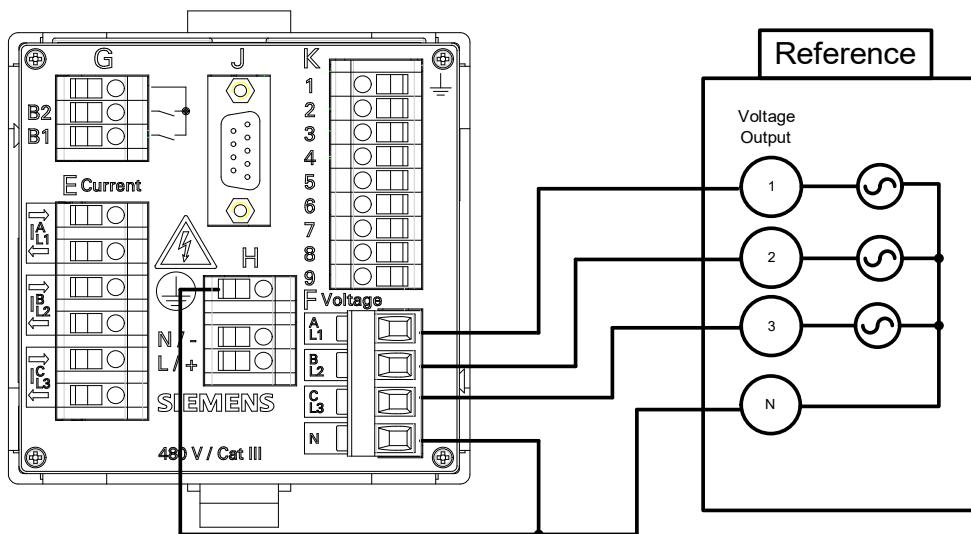

Fig. 10-1 Measurement Setup for Calibrating the AC Voltage Measuring Range
Calibration is only possible with symmetrical phases ( $3 \times 120^\circ$ ), see figure 10-1.
- ❖ Set up the measurement as shown in figure 10-1, depending on the device variant.